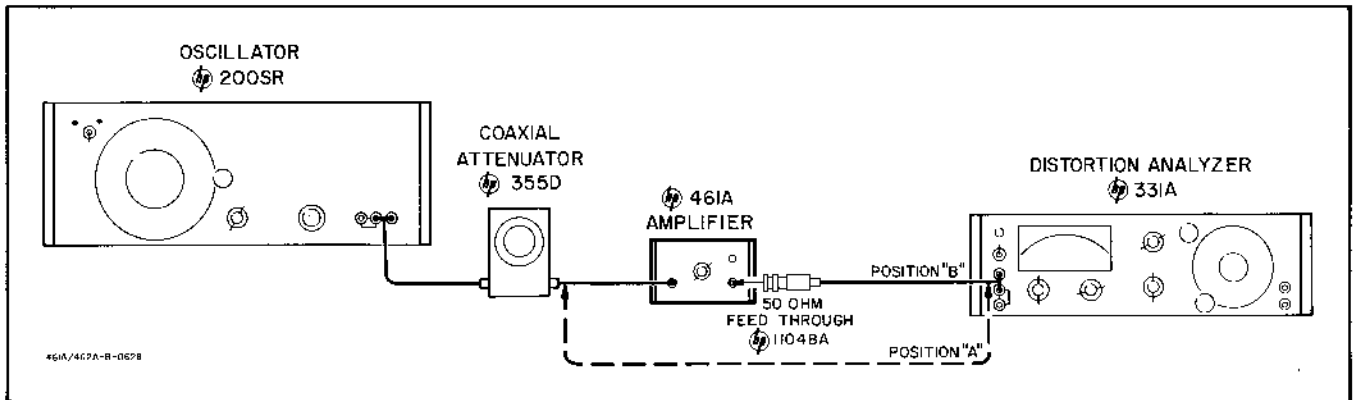

Figure 5-2. Distortion Check Setup
a. Connect the 461A as shown in Figure 5-2.
d. Set the attenuator to 40 db and set the 461A GAIN (DB) to 40 DB.